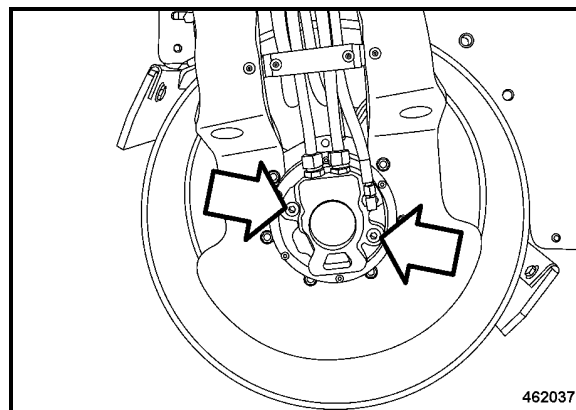

Fig. 102
- Screw both plugs (Fig. 102) back in and tighten them with 20 Nm (14.8 ft.lbs).